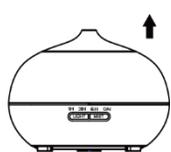

Figure 1
1. Put the diffuser on a flat surface, remove the cover by moving upwards. Do not tilt the diffuser if there is still water in it. Figure 1